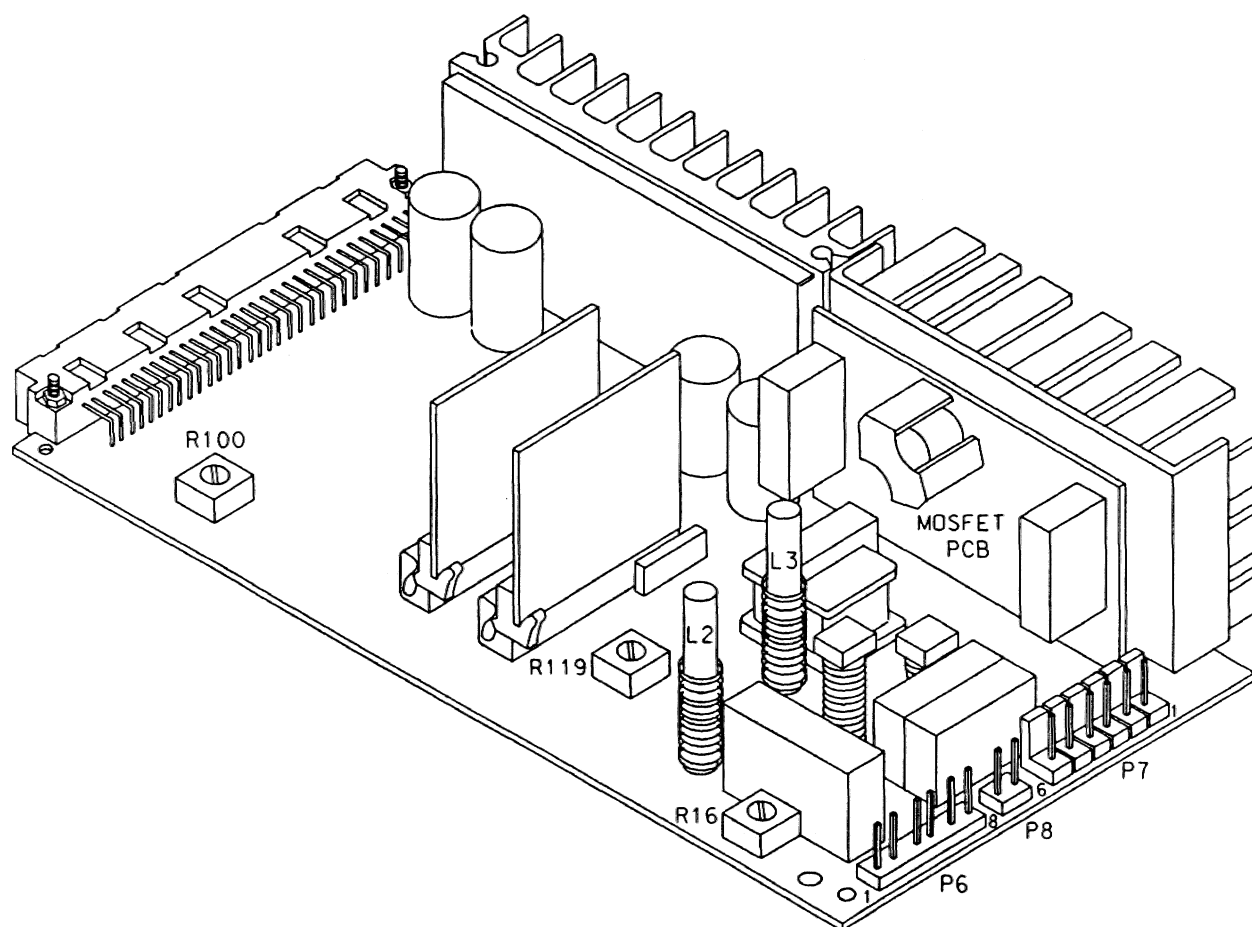

FIGURE 7-2. The Power Deflection Module
- a) Locate trimpot R119 on each Power Deflection module. See Figure 7-2.